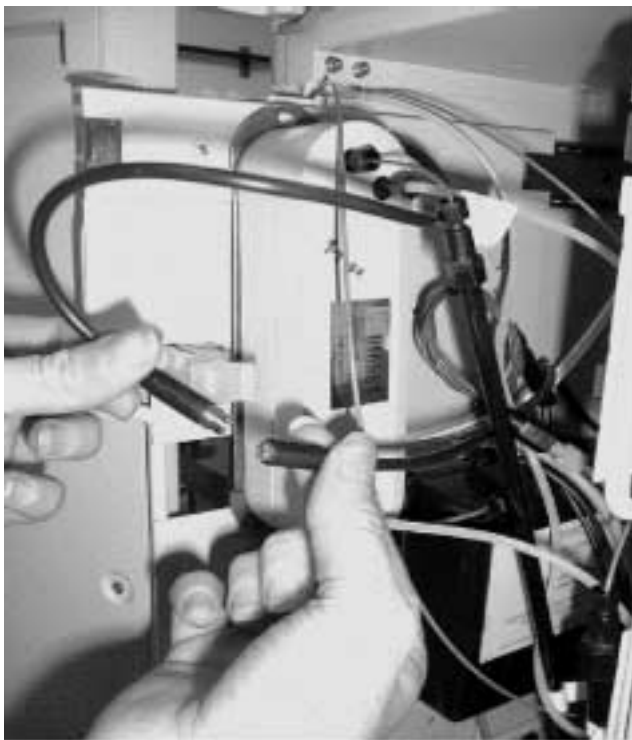

Figure 2. Disconnecting the SRS Power Source Cable from the SRS Cable
- d. Disconnect the SRS power source cable from the SRS cable (see Figure 2). You may remove the cable from the system, or leave it for future use.